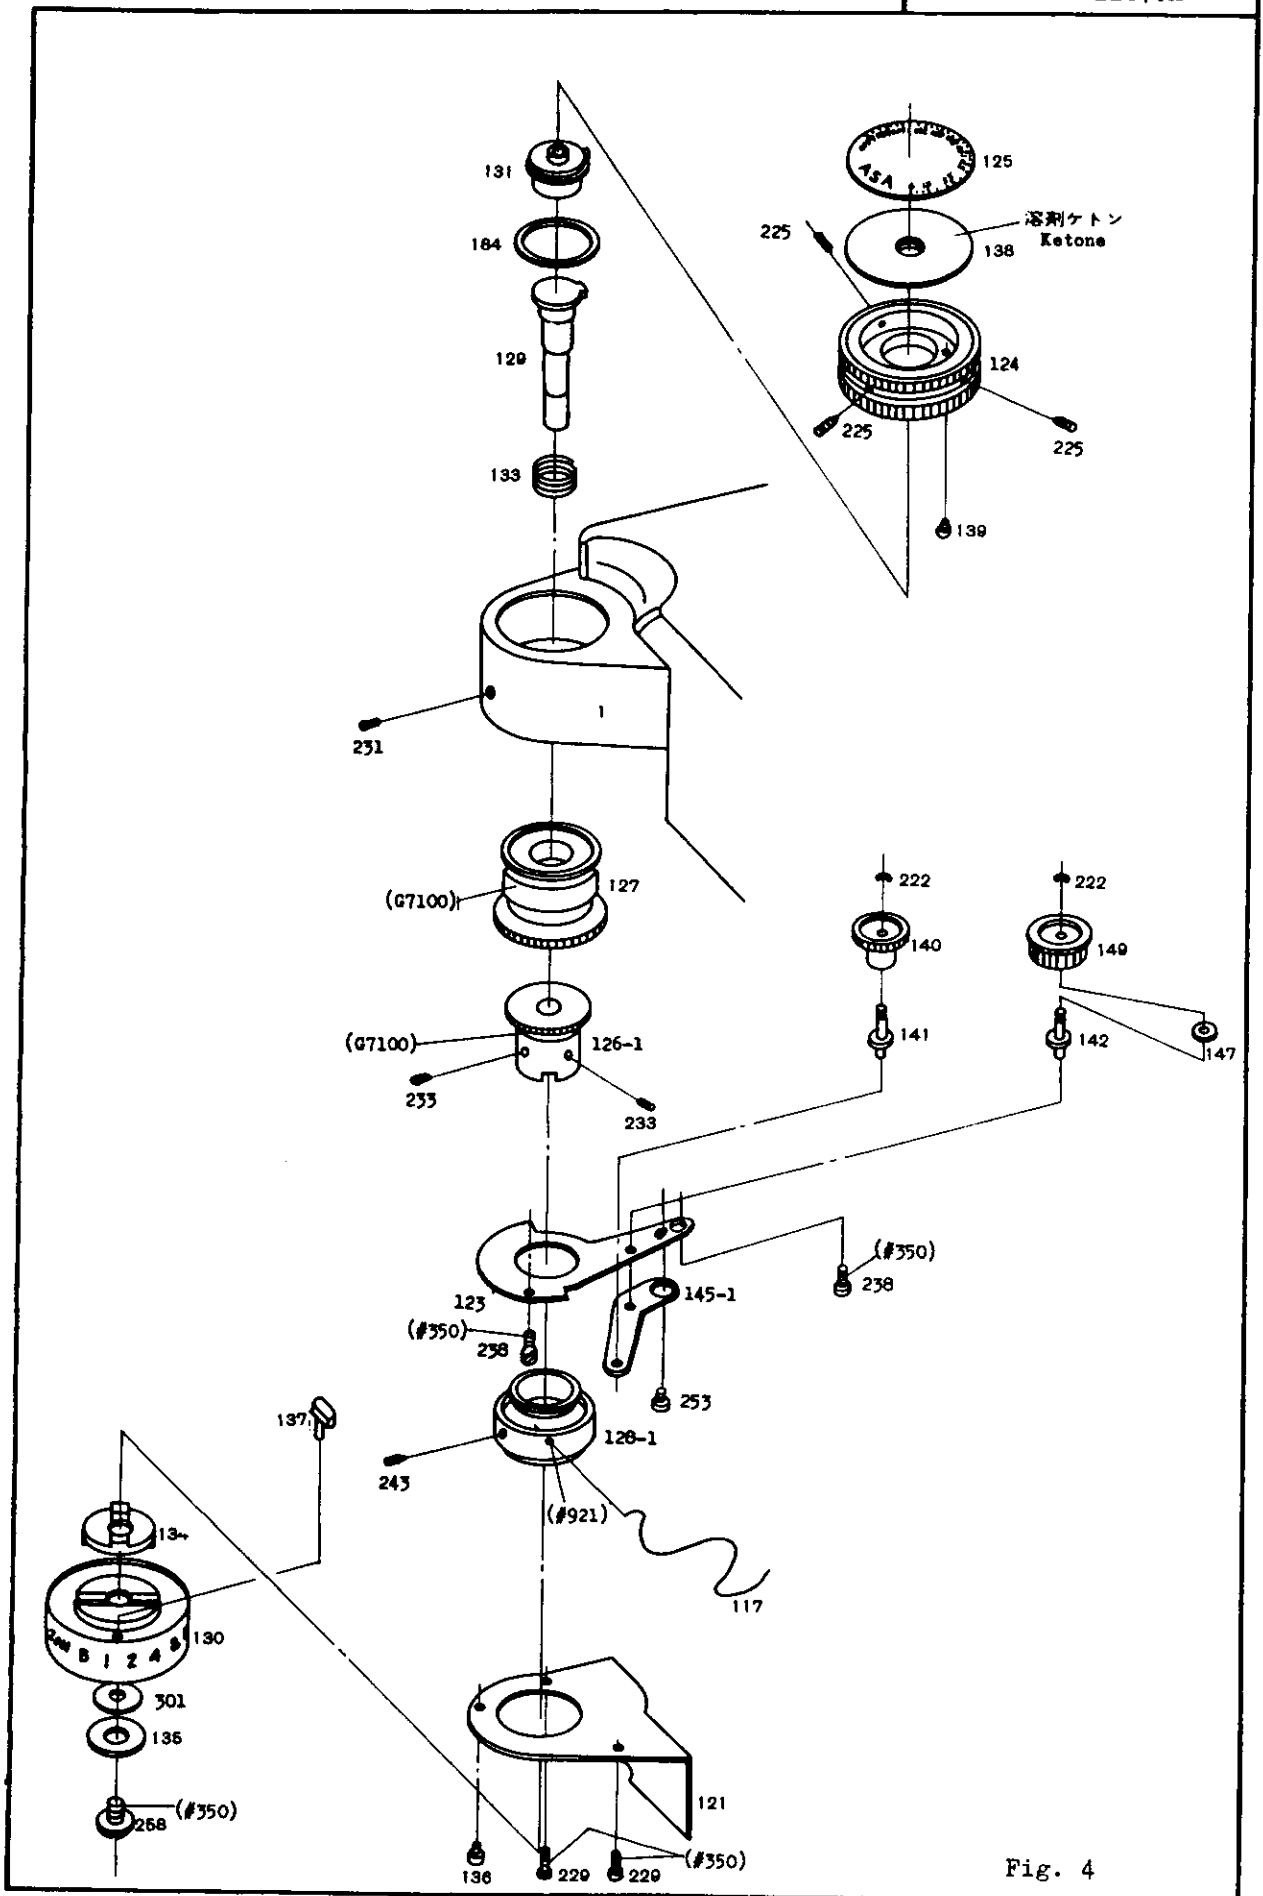

Fig. 4
7.1 T-dial unit (Fig.4)
7.2 T-film and F-figure (Fig.2, Fig.4)